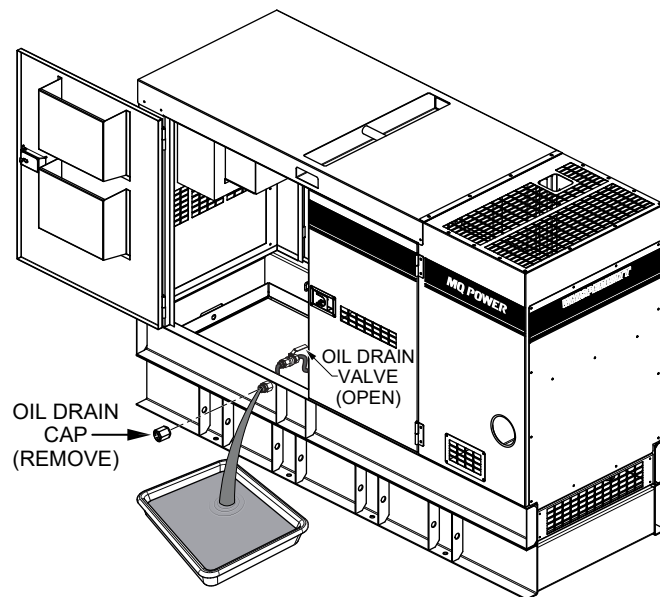

Figure 56. Draining The Engine Oil
4. Remove the **oil drain cap** (Figure 56).
5. Place the **oil drain valve** in the open position (Figure 56) and allow the oil to drain into a suitable container.